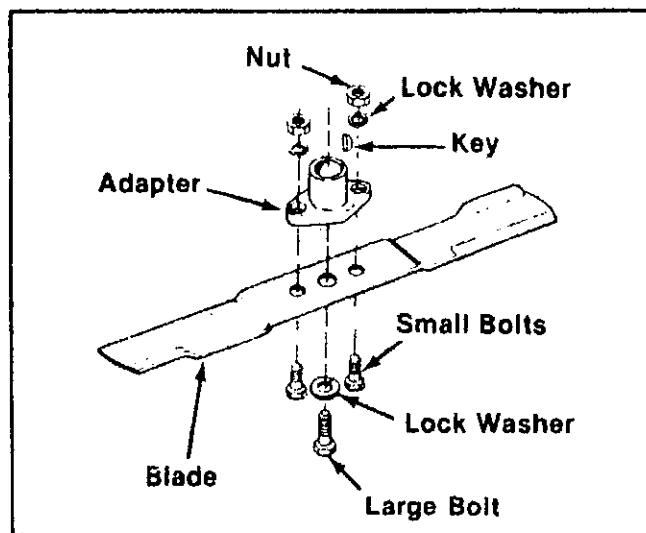

FIGURE 35.
3. Remove the two smaller bolts, lock washers and nuts holding the blade to the adapter. See figure 35.